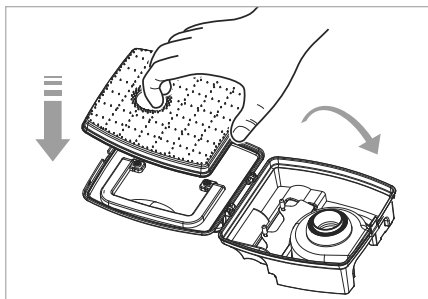

Fig. 14
- 7) Fasten the EPA filter ⑨ to the lid of the dust container ⑭ and close it (see Fig. 14).